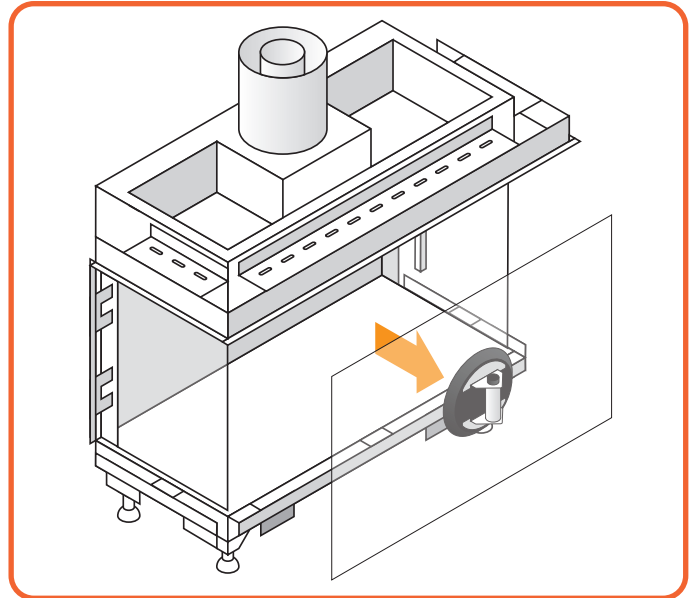

Figure 10.6 - Removing the suction cup
- Lift the glass out of the lower glass rail and tilt it out through the opening, as seen in **Figure 10.6**.